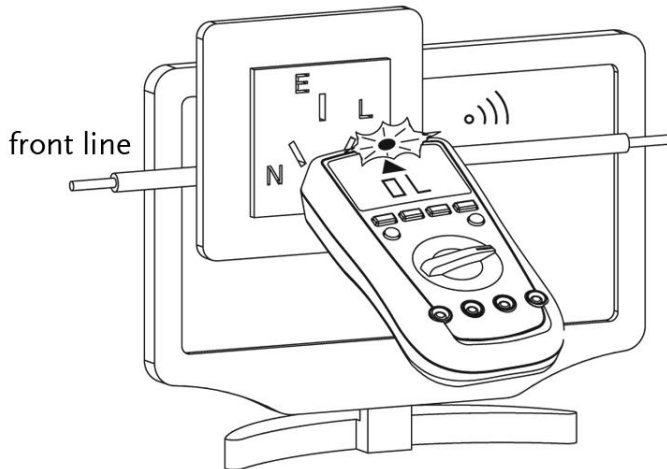

figure 11
J. EF Function (GDM-398 only) (see figure 11)